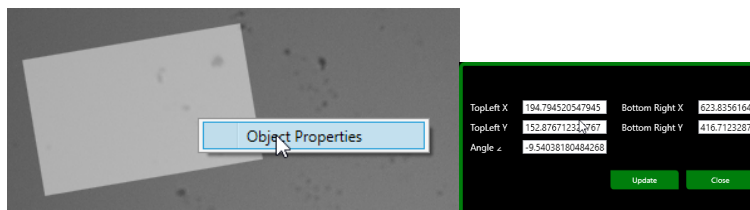

Figure 3-52 Object settings window
- 7.4. All object changes can also be made by clicking the right mouse button and clicking on Object Properties, see Figure 3-52.